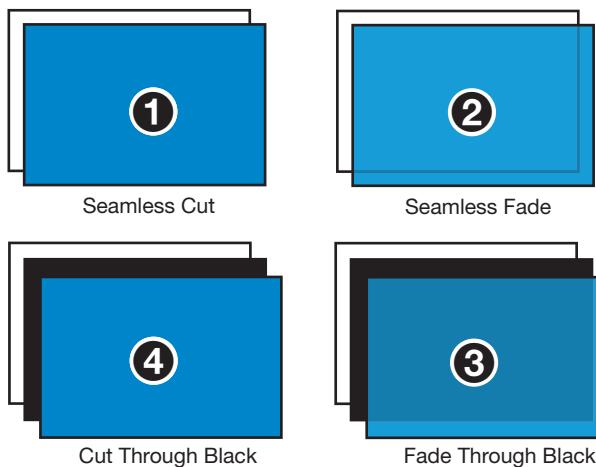

Figure 29. Transition Effects
- **Input Switch Effect** — Enables you to select the transition effect that is shown on the display while the IN1804 is switching inputs (see the examples in figure 29). Press the ▲ or ▼ button to select from the following available effects: